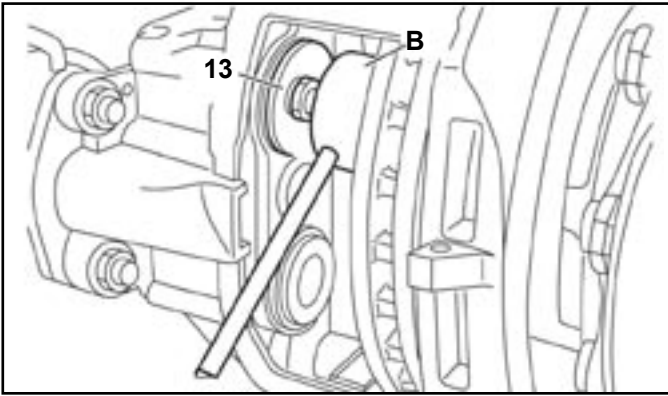

FIGURE 45 - ON VEHICLE TAPPET INSTALLATION
- Position a tappet assembly (13) onto each tappet bushing. Using press-in tool (B) in a reversed orientation with the press-in extension (T3) towards the threaded tube, install each tappet onto its tappet bushing - see Figure 45.
- Position a tappet (13) onto each tappet bushing. Using press-in tool (B) in a reversed orientation with the press-in extension (T3 + T4) towards the threaded tube, install each tappet onto its tappet bushing - see Figure 45.